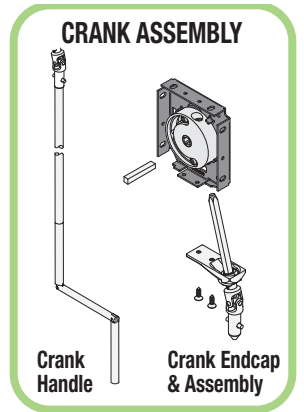

Figure 1
1. FOR ALL: Open cartons lengthwise. Remove all pieces from carton. If shade has a detachable crank handle, remove universal joint and shaft/bracket assembly by removing 2 screws from bottom of endcap (Fig. 1). Save universal joint & screws.